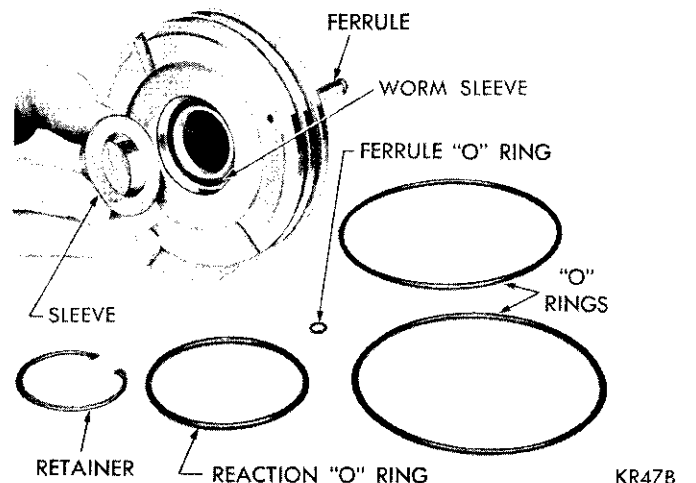

Fig. 17—Removing Cylinder Head Oil Seal
(24) Remove snap ring, sleeve and rectangular oil seal from cylinder head counterbore (Fig. 17).
(25) Test operation of wormshaft. The torque required to rotate wormshaft throughout its travel in or out of piston must not exceed 2 inch-pounds with a 15 pound side load. The worm should run in and out of piston under its own weight.